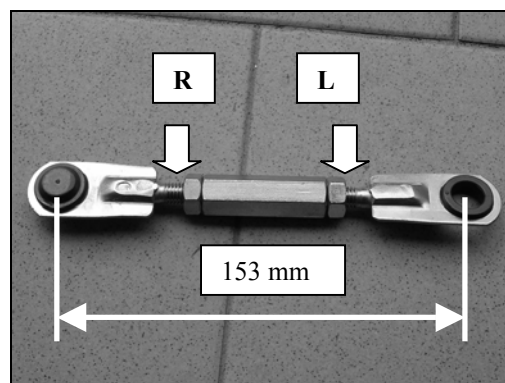

Fig. 99
- Check and if necessary adjust the length of the rod (Fig. 99)